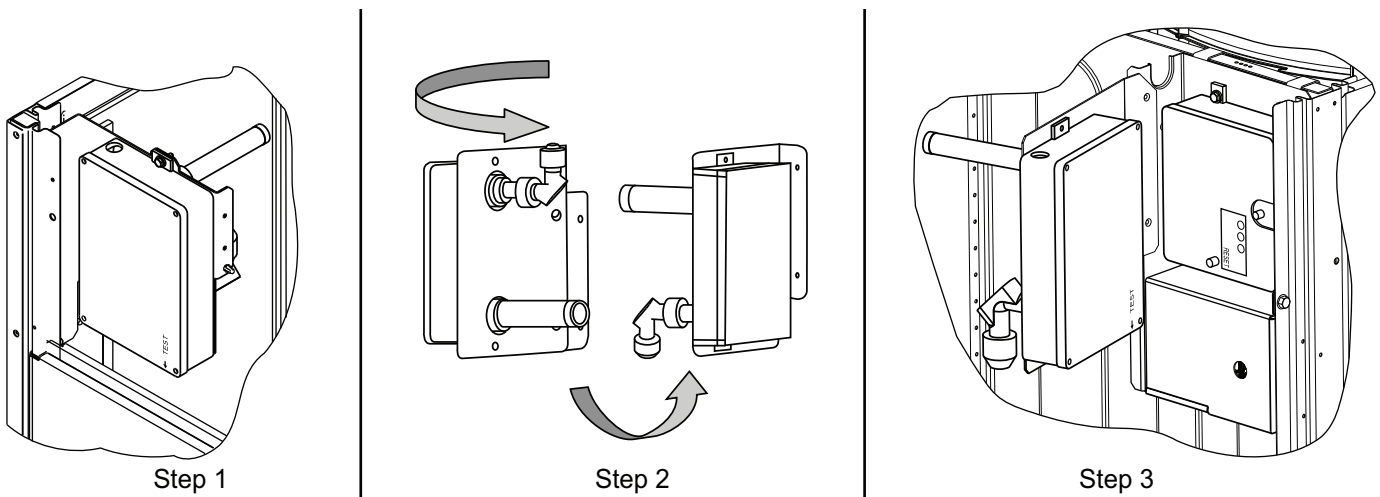

Fig. 52 — Completing Installation of Return Air Smoke Sensor
1. Unscrew the two screws holding the Return Air Smoke Detector assembly. See Fig. 52, Step 1. Save the screws.
2. Turn the assembly 90 degrees and then rotate end to end. Make sure that the elbow fitting is pointing down. See Fig. 52, Step 2.
3. Screw the sensor and detector plate into its operating position using screws from Step 1. See Fig. 52, Step 3.